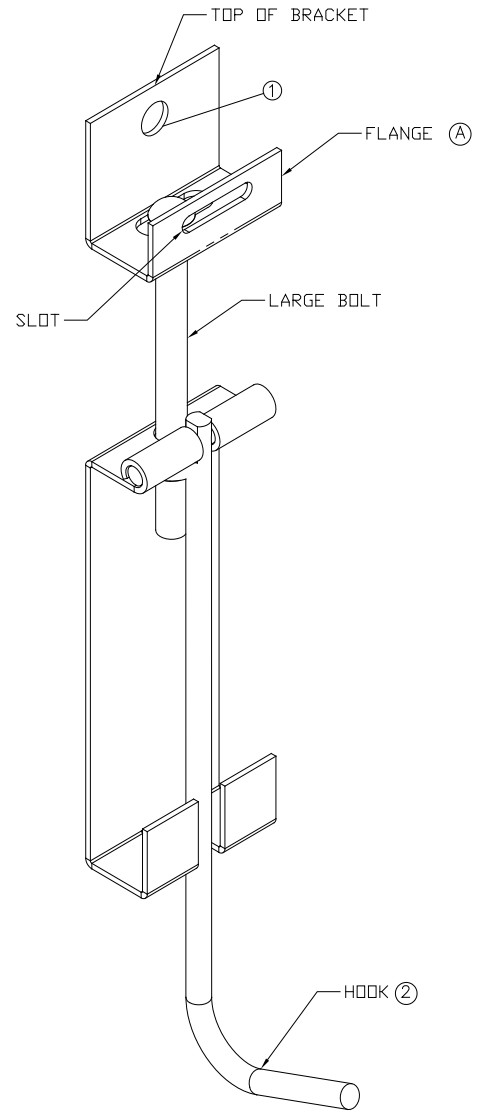

Figure 4-1
2. Place bottom nipple port of radiator into hooks of brackets and swing radiator until back of radiator is flush against flange A, see Figure 4-1 and 4-2.
4. Using large screw driver, tighten or loosen large bolts until clearance holes in "U" clips are opposite bolts in flange A (Figure 4-1).
6. Tighten large bolts (Figure 4-1) further if necessary.